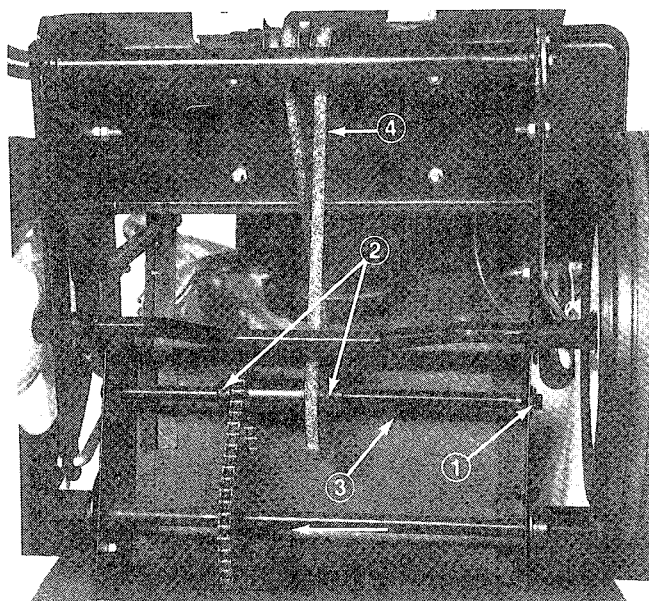

Figure 27
**IMPORTANT:** The belt must be installed as shown in Figure 27 or the traction drive will run backward.